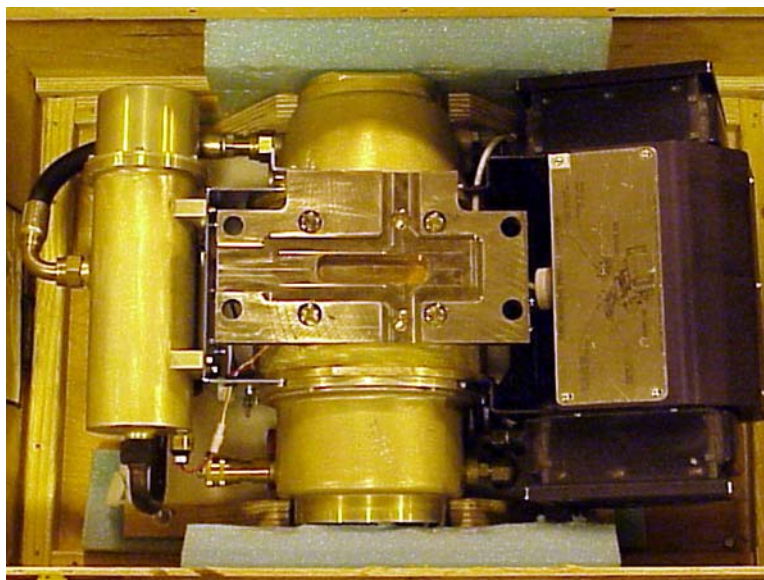

Figure 2-4 Tube Shipped with Mounting Plate Attached
14.) If the replacement tube has a mounting plate attached (see Figure 2-4), DO NOT REMOVE IT. Skip steps 15 and 16.